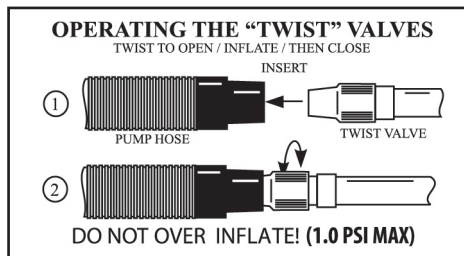

Figure 2. “twist” valve
1. Inflate chamber 3 “floor” (using appropriate pump fitting). Twist valve open to inflate and twist closed when complete (See Figure 2). Fill until firm. Do Not Over-Inflate! (**1.0 psi MAX**).